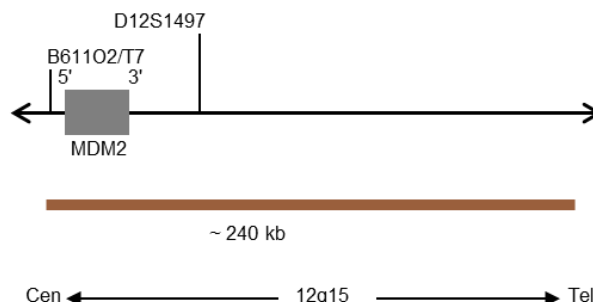

Fig. 1: SPEC MDM2 probe map (not to scale)
- Digoxigenin-labeled polynucleotides (~1.8 ng/μl), which target sequences mapping in 12q15* (chr12:69,190,708-69,430,185) harboring the MDM2 gene region (see Fig. 1).